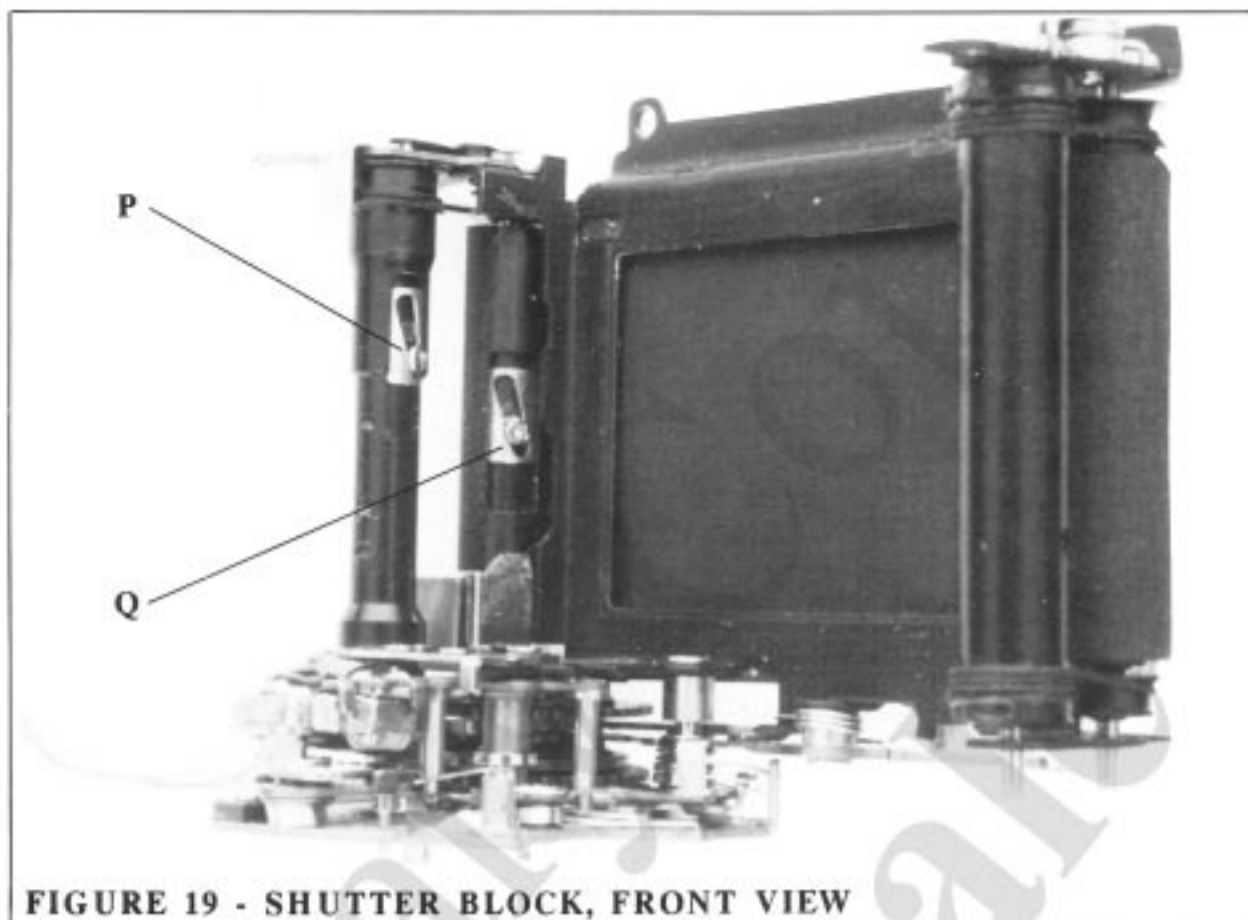

FIGURE 19 - SHUTTER BLOCK, FRONT VIEW
16. lift out shutter block toward top of body casting, Fig. 19